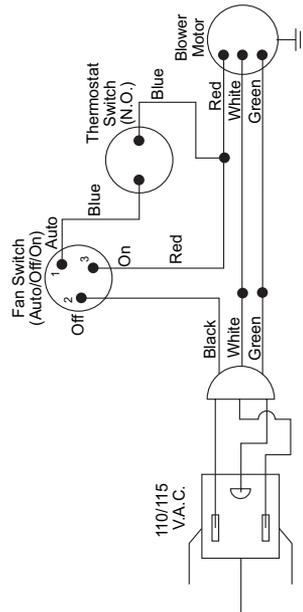

Figure 19 - Wiring Diagram For Blower Accessory Built-In Installation
- A licensed electrician must follow the wiring diagram to connect incoming electrical supply to fan kit wiring harness (see Figure 19).